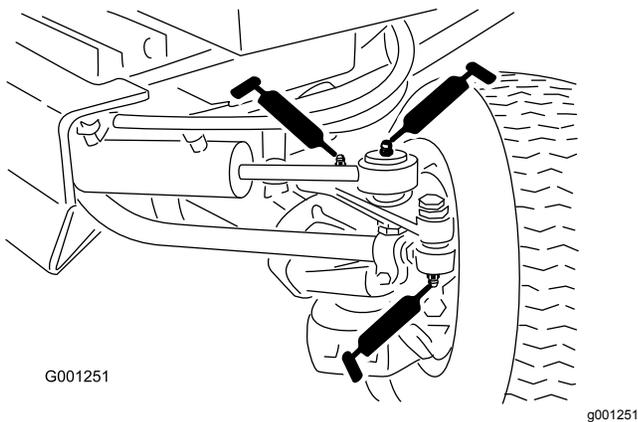

Figure 44
- Tie-rod ends (2) (Figure 44)
- Cylinder-rod ends (2) (Figure 44)
- Steering pivots (2) (Figure 44)
- Axle-pivot pin (Figure 44)